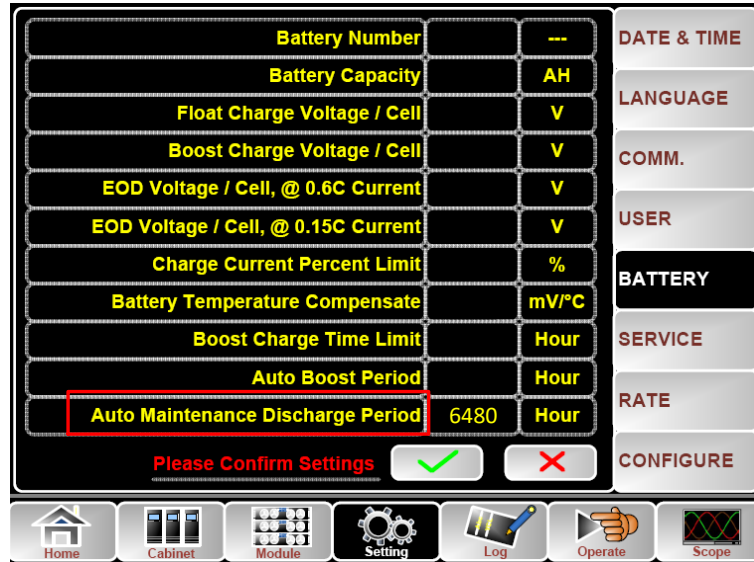

Figure 5-4 Setting period for battery auto discharge
- Setting period for battery auto discharge. Enter the “BATTERY” page of the Setting (See Figure 5-4), Set the period time in the item “Auto Maintenance Discharge Period” and confirm.